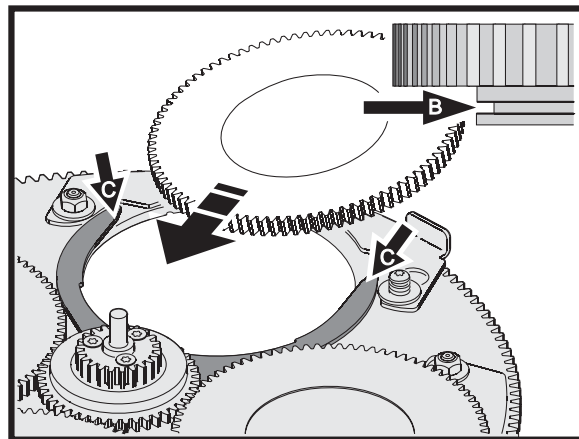

Figure 28: Installing a goboholder
1. See Figure 28. With the retainer plate lifted up, slide the goboholder into the gobo wheel so that the edges of the retaining spring (C) engage in the slot (B) in the goboholder. If necessary, rock the goboholder from side to side slightly until the spring engages. Push down on the retaining plate tab (A) so that the retaining plate locates in the slot (B) in the goboholder and the retaining plate is held firmly in the gobo wheel.